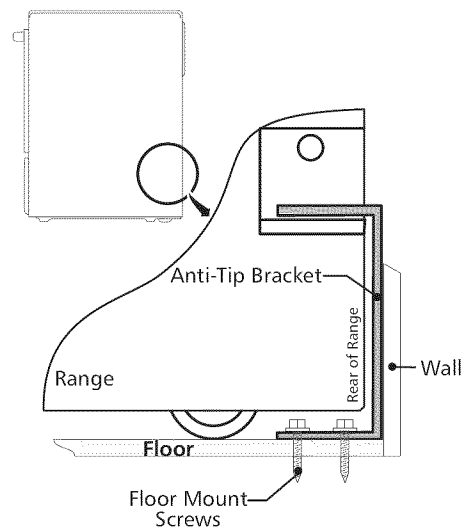

Figure 16
4. Remove template and place bracket on floor. Line up holes in bracket with marks on floor and attach with 4 screws provided. Bracket must be secured to solid floor (Figure 16). If attaching to concrete floor, first drill 3/16" (0,48 cm) dia. pilot holes using masonry drill bit.